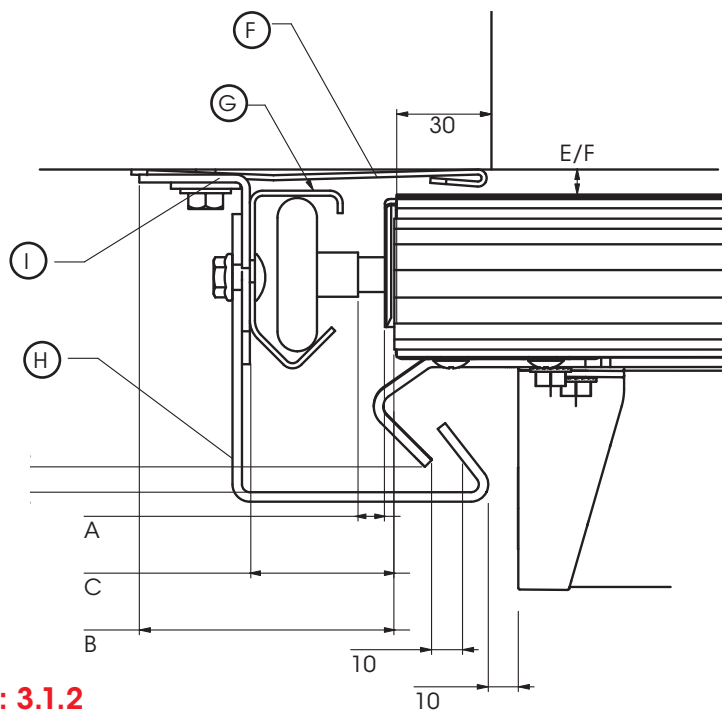

Fig: 3.1.2
- b) Ensure to follow the measurements as shown in Fig 3.1.2 to set out the placement of the track and brackets. The fixing points should be spaced at 300-400mm centres.
- c) Take note of the positioning of the jamb spacer (F) as it must be fitted under the jamb bracket (I) with the rolled edge facing the door as shown in Fig 3.1.2
- d) Once satisfied temporarily fix in position with at least **three (3) fixings** to the top bracket and one to each of the lower track brackets. These will hold the tracks in position and allow for minor adjustments.
- b) Check that the wheels are sitting in the "V" groove of the vertical track on each side and there is sufficient clearance between the panel and the track as per Fig 3.1.2.
tip Check that the clearance in the vertical tracks as per Fig 3.1.2 is also in the horizontal tracks